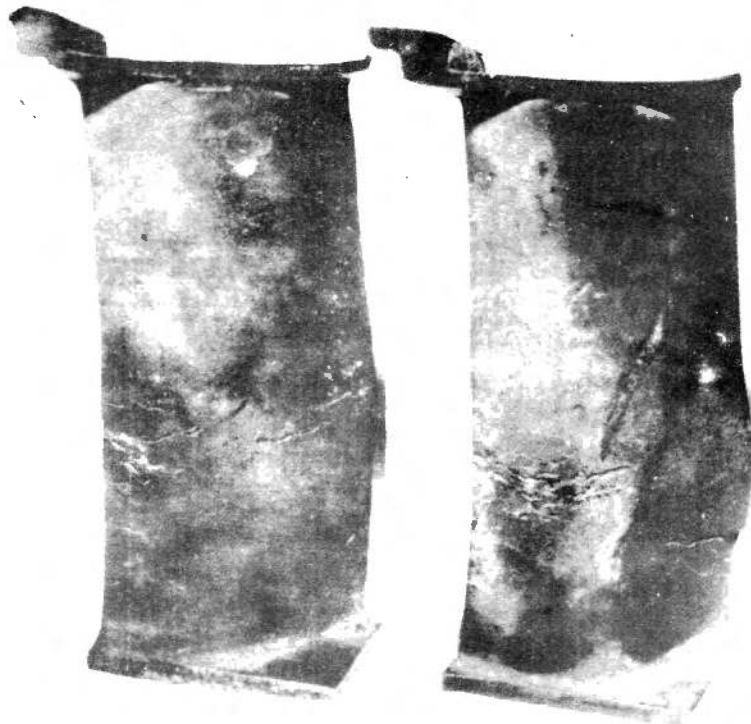

Fig. 4
- (b) trailing edge cracks exceed 0.75 inches in length (see Fig. 4);